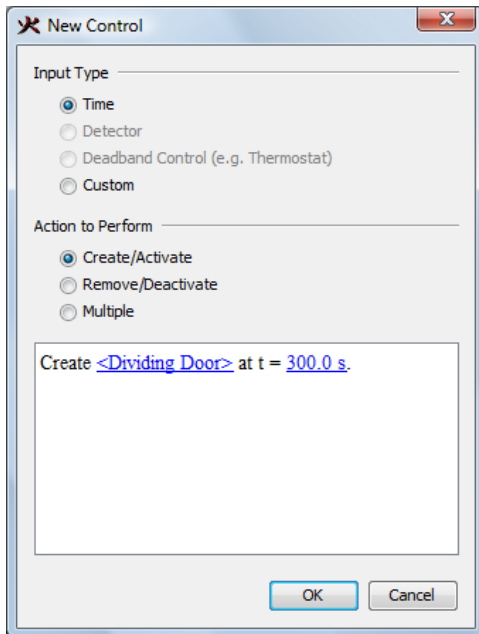

Figure 6.11. The control logic that opens the dividing door
7. For the **Input Type**, select **Time**. For the **Action to Perform**, select **Create/Activate**. In the text window, click on **TBEGIN** to change the time. In the pop-up box, type `300.0 s` and press ENTER on your keyboard. The control logic will now be displayed, Figure 6.11. Click **OK** to create the control.